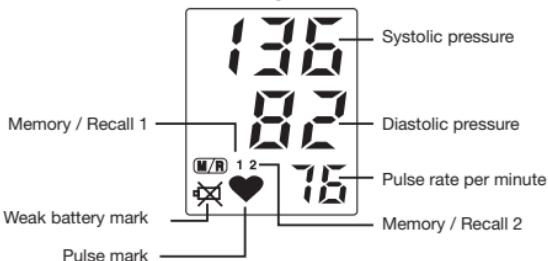

Fig. 4
3. When weak battery symbol appears on the display (Fig. 4), please replace with two new batteries at the same time. Do not leave exhausted batteries into device compartment.